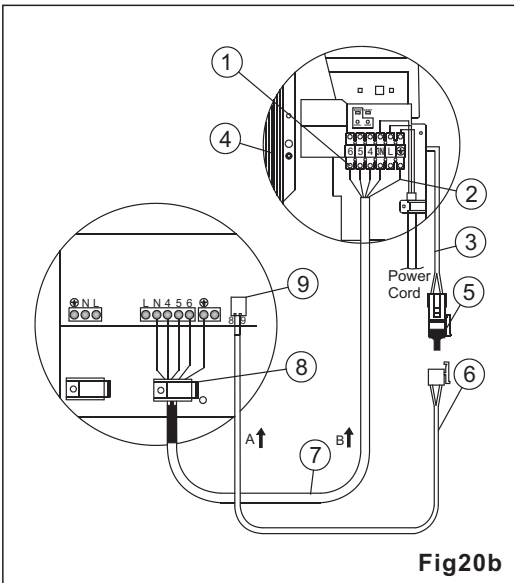
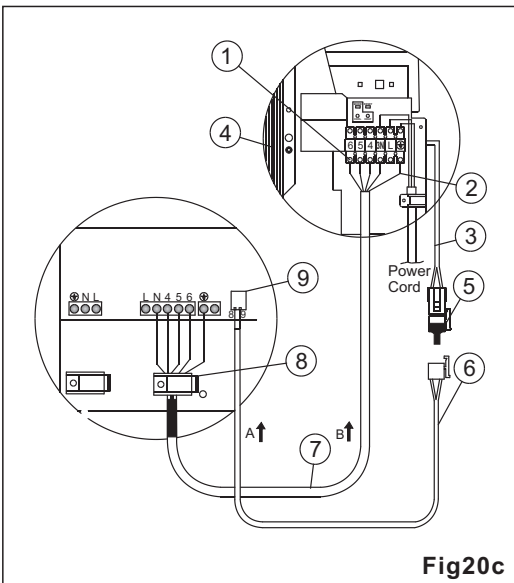

Fig.20b (WNG 21/24 1PH)
Fig.20c (WNG 21/24 3PH)
3. Connect the cable ends to the terminals of the indoor and outdoor units, as shown in fig.20a, fig.20b, fig.20c.
4. Shape a loop and connect the yellow/green ground wire (2) to ground terminal screw of the indoor unit, as shown in fig.20a, fig.20b, fig.20c, fig. 20d, fig. 20e, fig. 20f.